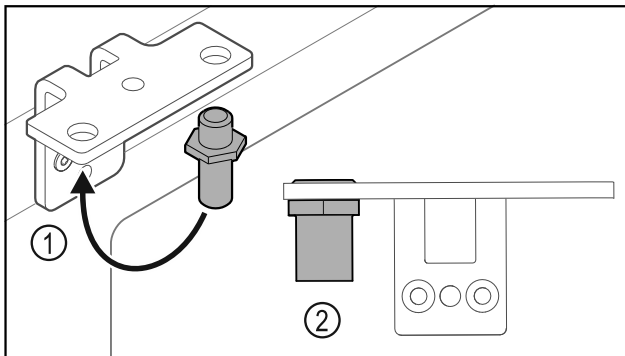

Fig. 31
- ▶ Put the pin back into the hinge Fig. 31 (1).
- ▶ Tighten the pin Fig. 31 (2) to a **torque of 12 Nm**.